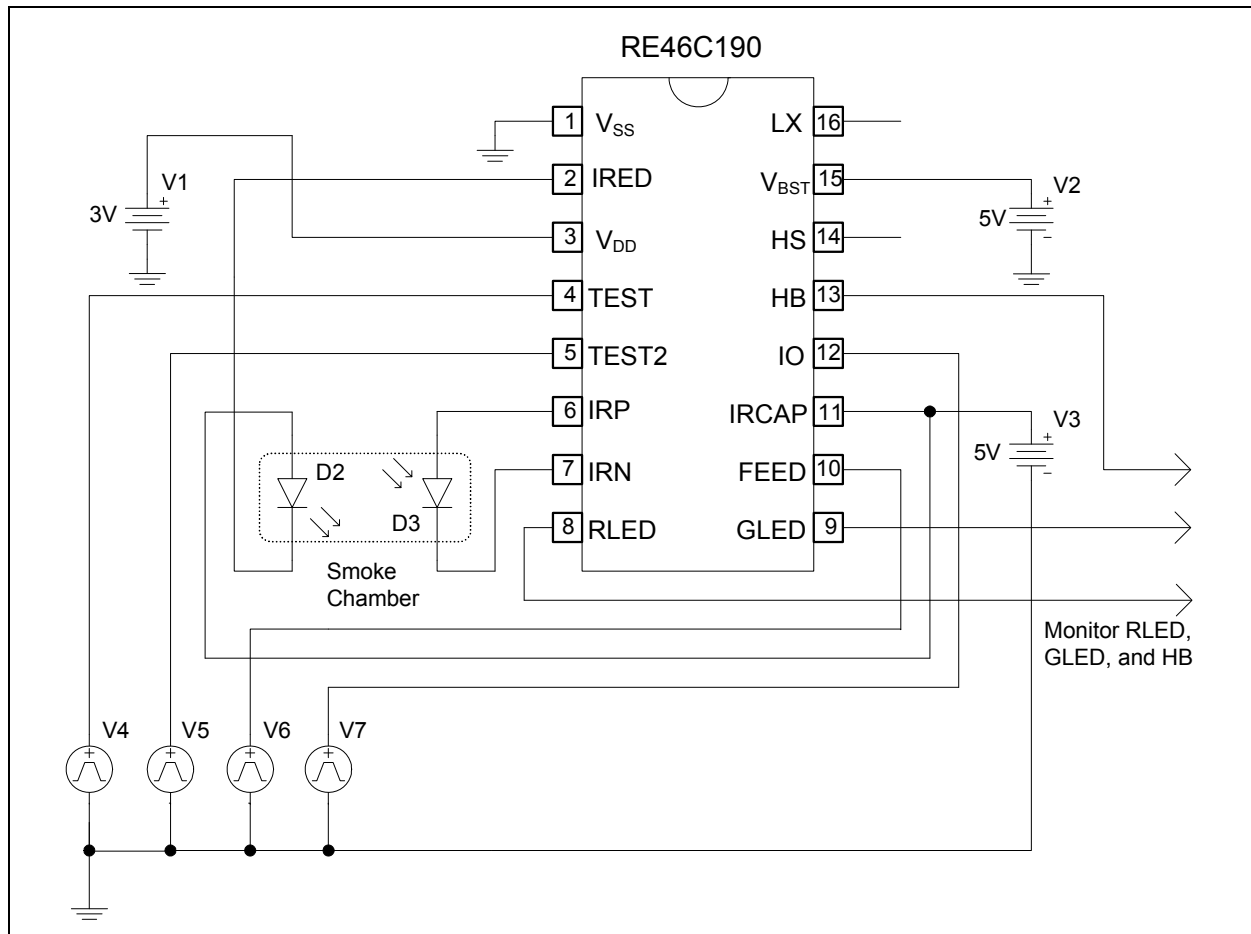
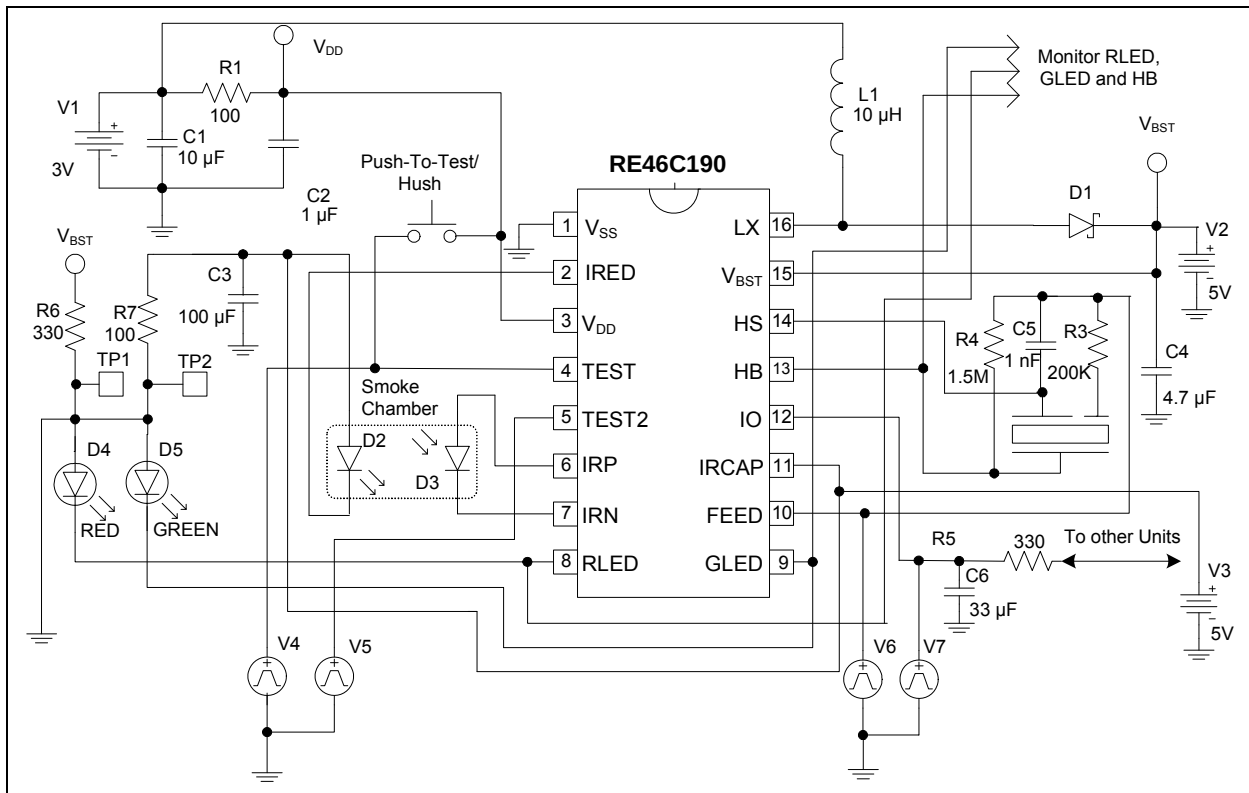

FIGURE 4-1: Nominal Application Circuit for Programming.
FIGURE 4-3: Circuit for Programming in the Typical Application.
1. Power up with bias conditions as shown in Figure 4-1. At power-up
As an alternative to Figure 4-1, Figure 4-3 can be used to program while in the application circuit. Note that in addition to the five programming supplies, connections to V_{SS} are needed at TP1 and TP2.
1. Power-up with the bias conditions shown in Figure 4-1.